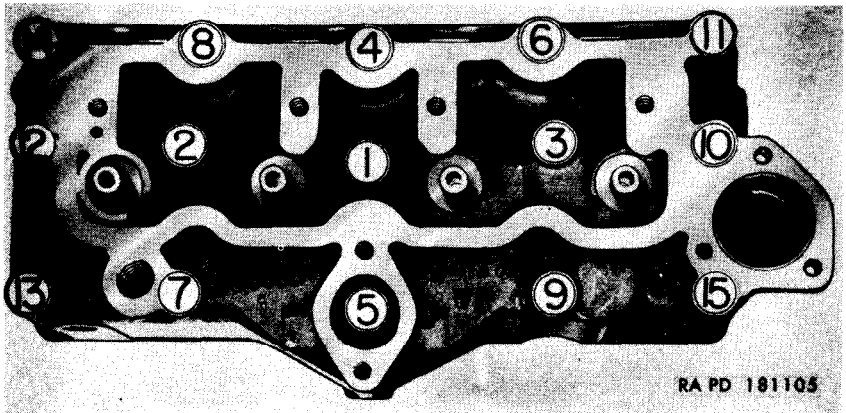

Figure 94. Cylinder head cap screw tightening sequence.
e. Tighten all cap screws to 60 to 65 pound-feet torque in the sequence shown in figure 94.